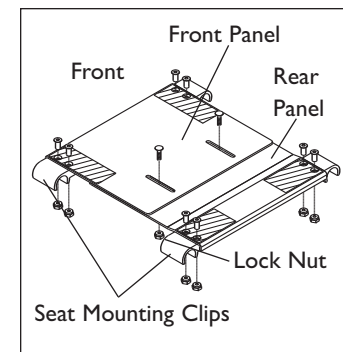

Figure 1
- Remove the two screws that secure each seat mounting clip to the seat pan (Figure 1).
- Loosen the two lock nuts on under side of seat pan that attaches front seat pan panel to rear seat pan panel (Figure 1).
- With the upholstery on the back canes, lift the back upholstery flap from the rear (Figure 1) to gain access to the Velcro® closure straps.